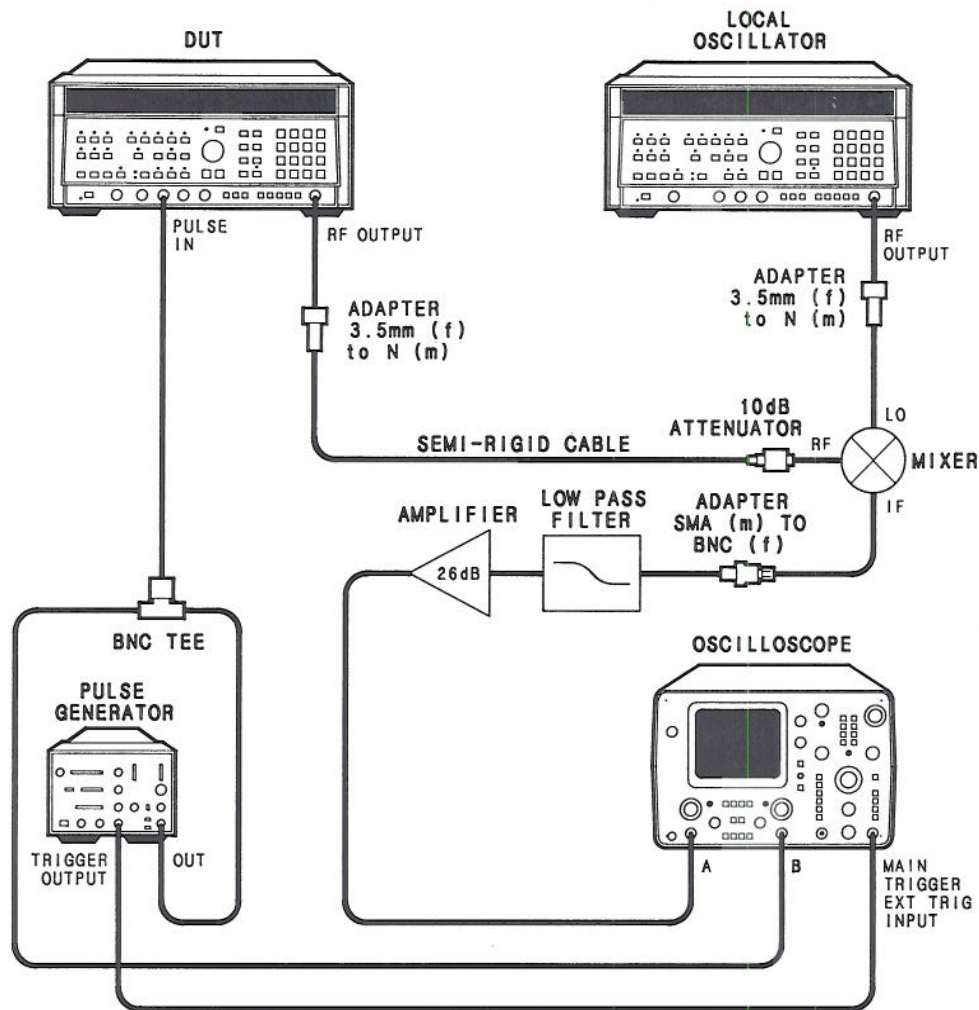

Figure 4-16. Pulse Modulation Accuracy Test
1. Connect equipment as shown in Figure 4-16. Connect the output of the DUT directly into channel A of the oscilloscope. Connect the BNC tee directly to the DUT's PULSE IN connector. Allow a one hour warm up.
11. Connect the local oscillator as shown in Figure 4-16.